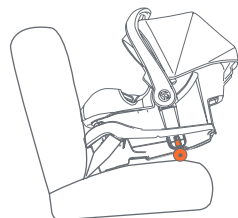

Fig. 53-3
- A rolled towel, folded towel or pool noodle may be placed at the back of the base for elevation (Fig. 53-3).